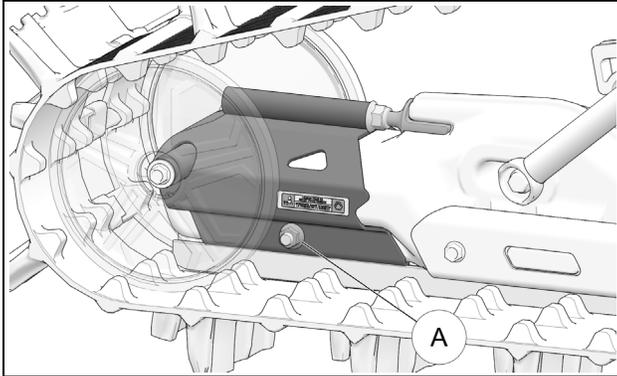

Figure 19
CAUTION: Track Tensioner assembly bolt (A) must be loosened before adjusting track tension. See Figure 19.
- Tighten assembly bolt (A) back to 35 N-m (25 lb-ft) of torque once Track tension is set. See Figure 19.